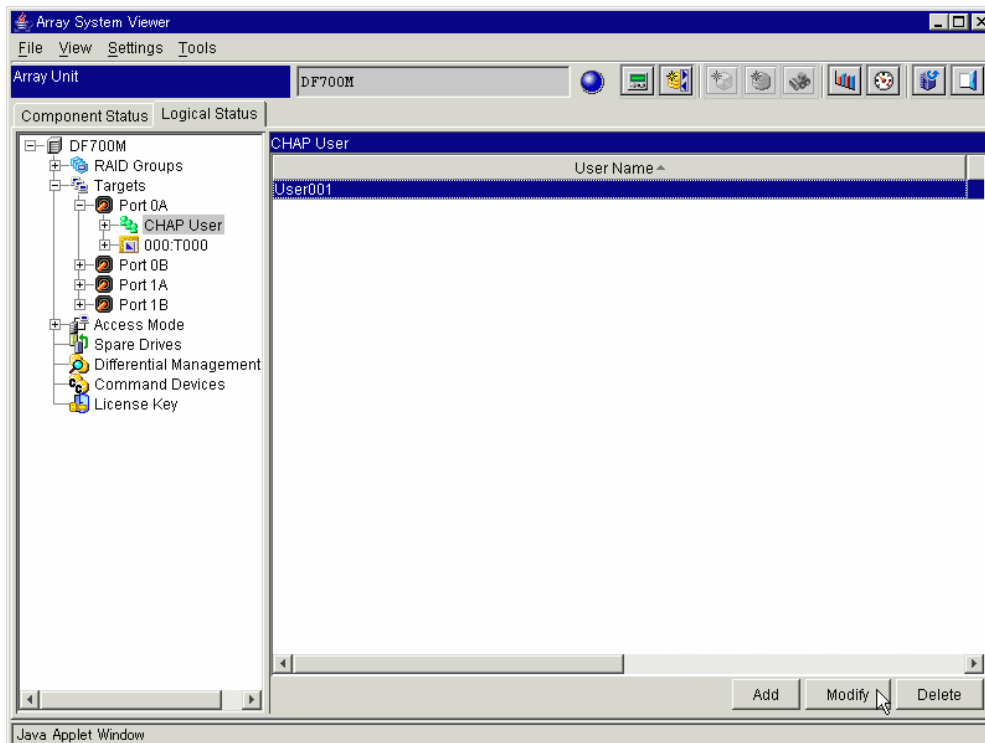

Figure 8.14 Array System Viewer - CHAP User List
1. Click the **Logical Status** tab. See Figure 8.14.